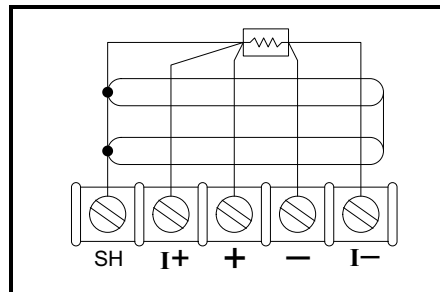

Figure 26: 4-Wire RTD to 4-Wire Input Card
For a four-lead RTD, you must connect the two leads at one end to (+) and (I+). Connect the other two lines to (-) and (I-). Connect the sheath or shield to the (SH) terminal as shown in Figure 26 below.